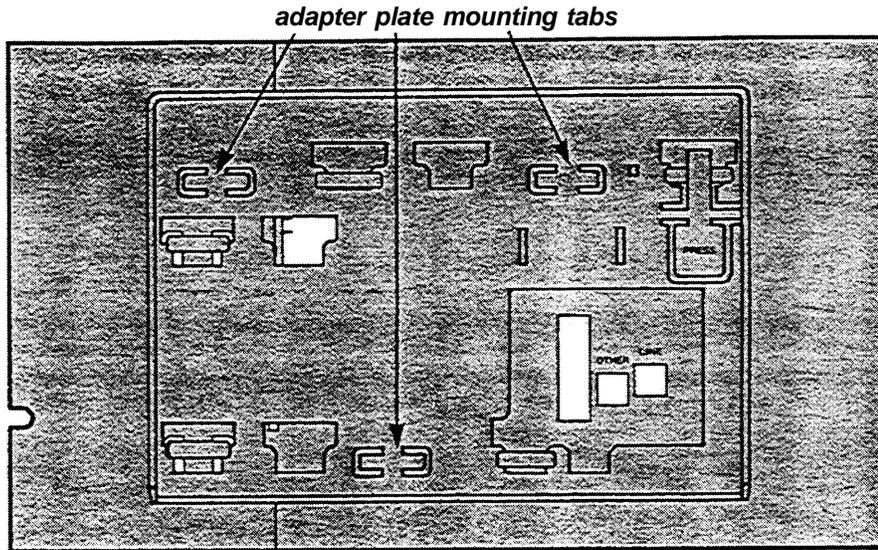
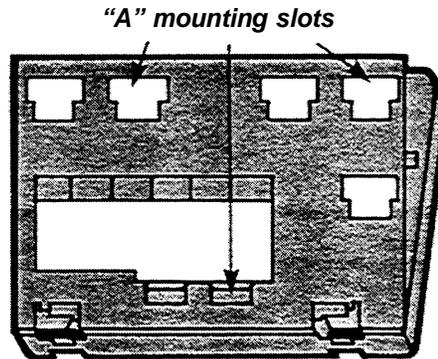

Figure 5.
Figure 6.
2. Position the top of the desk stand on the bottom of the attendant console so that the mounting tabs on the adapter plate (see Figure 5) fit into the "A" mounting slots on the stand (see Figure 6).